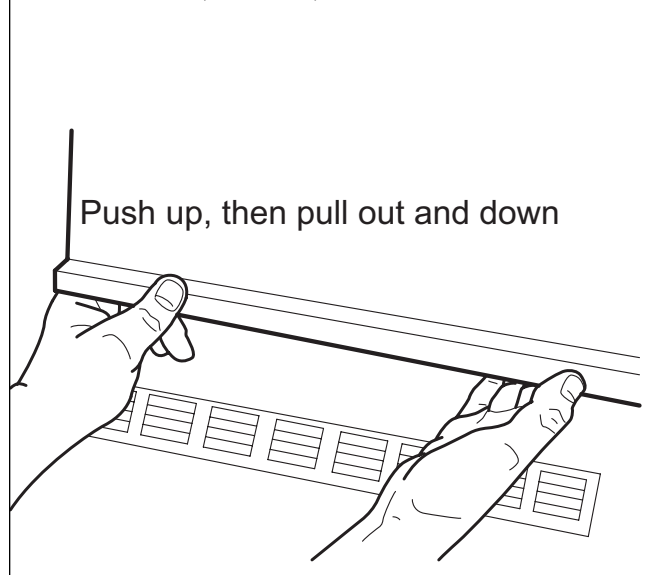

Figure 2-16. Back Duct Removal
1. To access the thermistor in the upper cabinet zone of the 700TR, lift the bottom of the back duct cover up, then pull forward and down (Figure 2-16). Once the cover is removed, the thermistor is exposed at the bottom right rear wall, remove the clamp and disconnect the electrical connection to remove.
1. To access the thermistor in the upper refrigerator zone, lift the bottom of the back duct cover up, then pull forward and down (Figure 2-16). Once the cover is removed, the thermistor is exposed at the bottom right rear wall, remove the clamp and disconnect the electrical connection to remove.